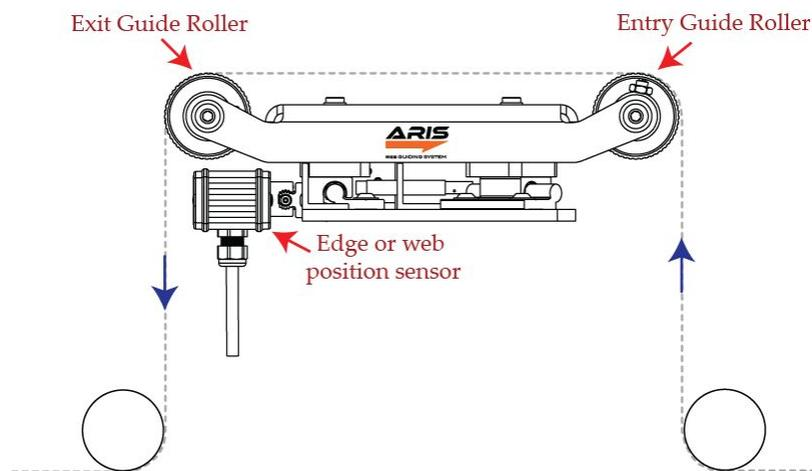

Fig. 1: Components of a web guiding system
- The sensor rail should be positioned such that the sensor is at the downstream span of the web guide as shown in Fig. 1.